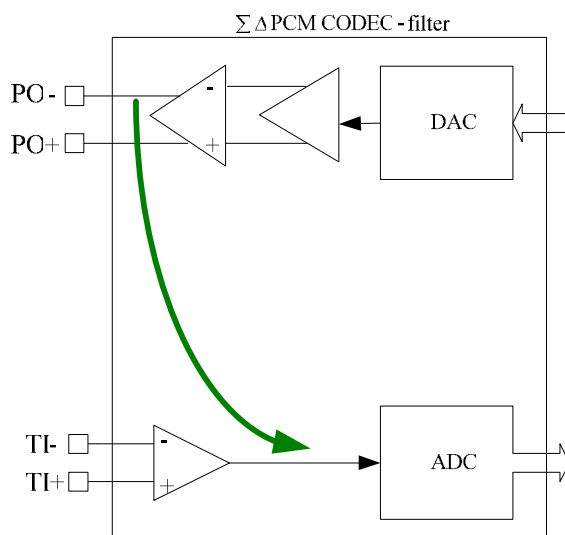

Figure 14-7 The signal flow of Analog Lookback
- Analog Loopback [Bit 3]: =1, Setting this bit causes an analog loopback from the receive path to the transmit path. Internally the RO output in the receive path is routed to the transmit gain control in the transmit path; the op-amp TG is bypassed. This feature is useful for self-testing to neglect the external connecting circuit, shown in Figure 14-7.